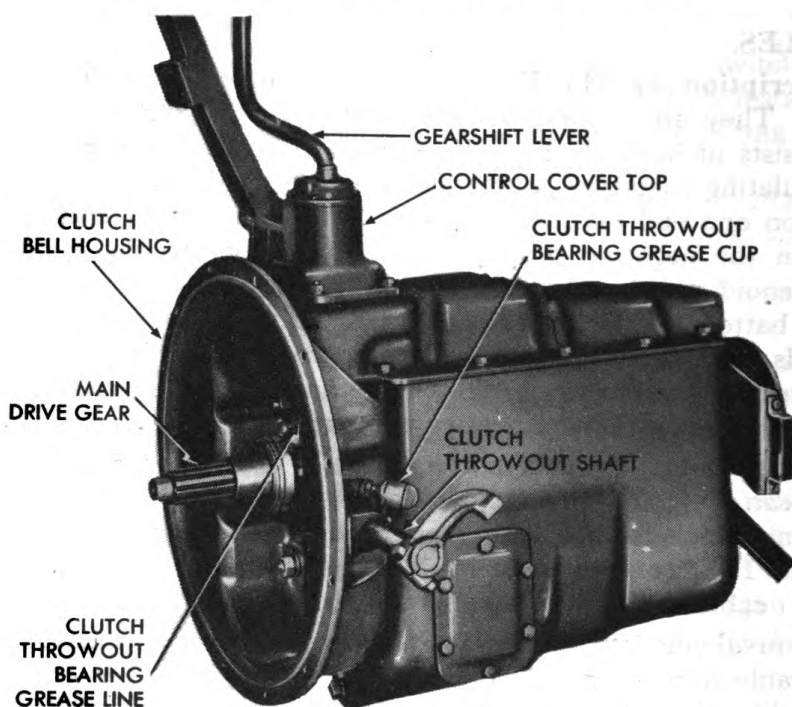

Figure 60 — Transmission
a. Description (fig. 60). The transmission is a selective sliding-gear type providing 5 speeds forward and one reverse. 12 screws and lock washers secure the transmission to the bell housing. Gears are changed by means of a shifting lever which comes up through the cab floor.